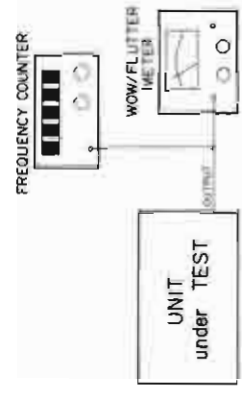

Fig. 5-11
1. Connect a frequency counter to either **OUTPUT** jack (see Fig. 5-11).
1. Connect a wow-and-flutter meter to the deck as shown in Fig. 5-11.